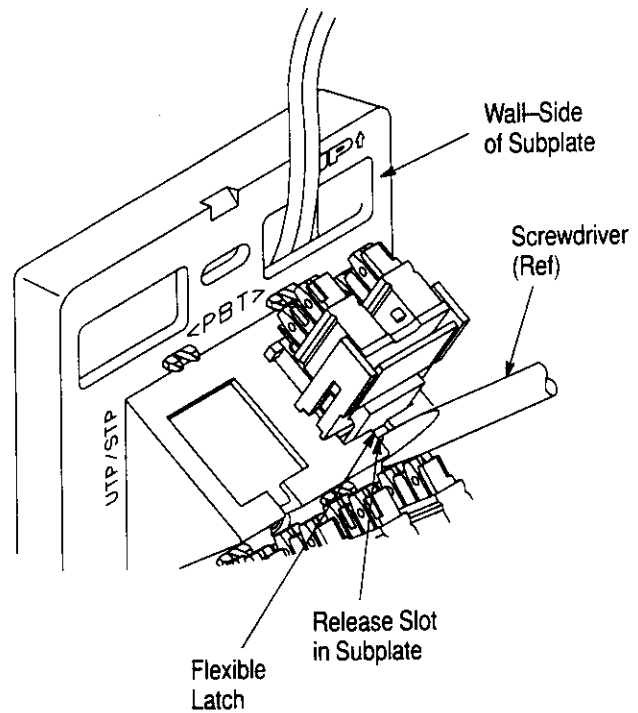

Figure 7
3. To remove modular jacks, remove subplate from mounting surface and insert the end of a blunt-edged instrument into the release slot (located on wall-side of subplate) of the port of the connector to be removed. See Figure 7. Using slight pressure, slide the instrument against the flexible latch on the insert until the connector is released from the port.